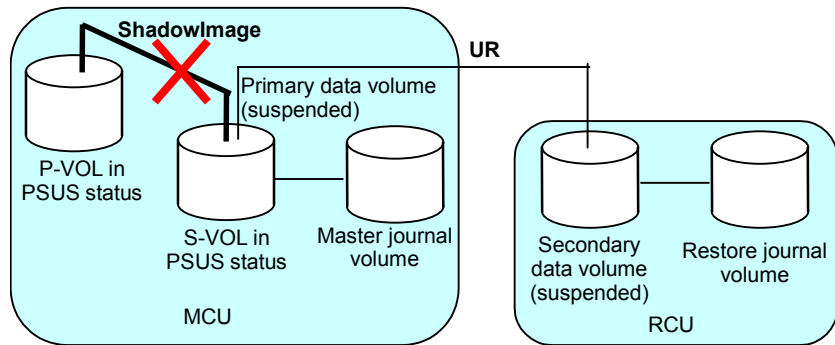

Figure 3-16 Restoring a ShadowImage P-VOL - Step 8
8. Execute the CCI **pairsplit -r** command on the ShadowImage pair to put the pair in PSUS status (see Figure 3-16).